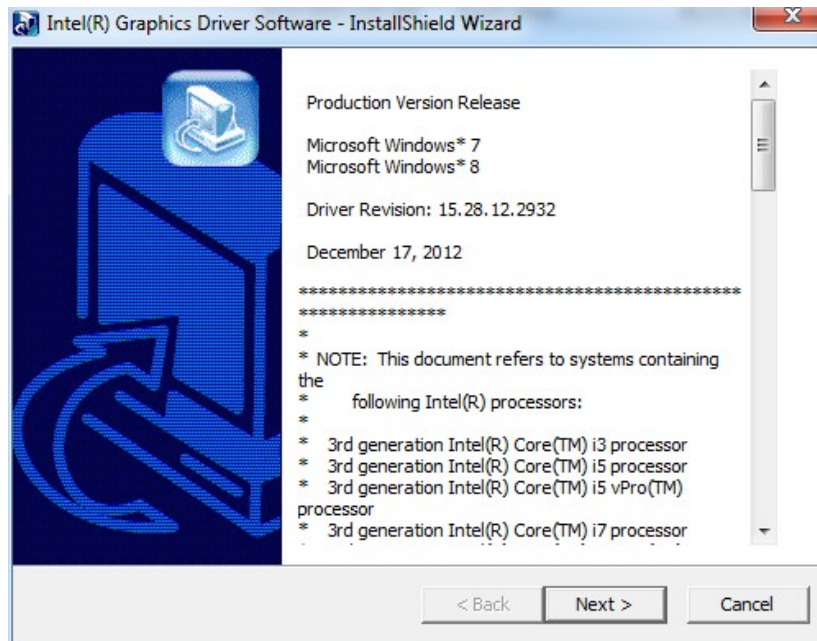

Figure 4-4: Intel® Graphics Driver InstallShield Wizard
Step 3: Double click the setup file in the folder. The **Intel® Graphics Driver InstallShield Wizard** appears (**Figure 4-4**).